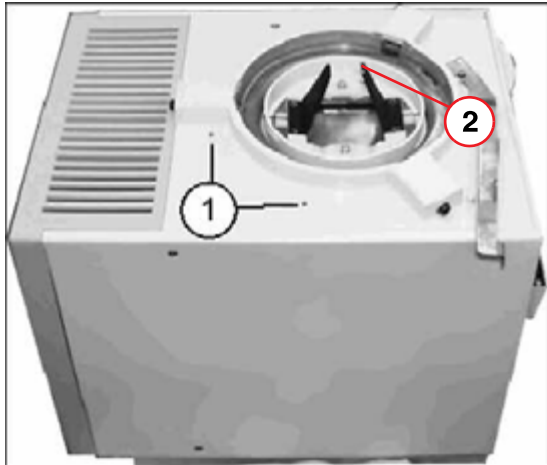

Fig. 28: Collimator installation
- Remove the red transport safety screws from the collimator (1/Fig. 28 / p. 26).
Do not damage the collimator blades (2/Fig. 28 / p. 26).